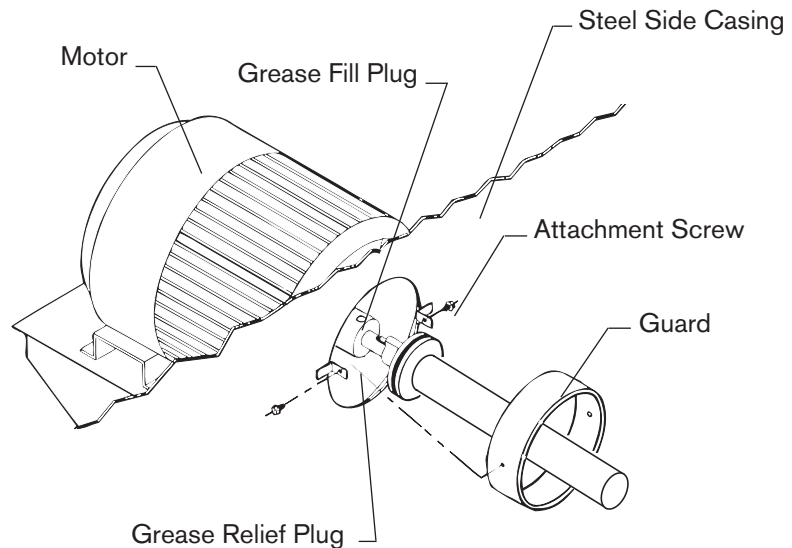

Figure 7
1. Remove guard as shown in Figure 7. Opposite end motor bearing is accessible from outside the fluid cooler.